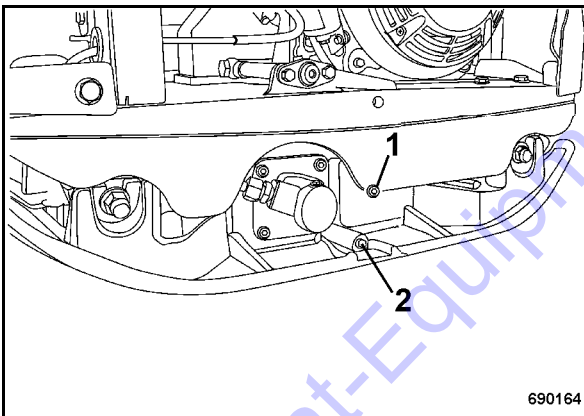

Fig. 61
- Clean the oil drain plug (2) (Fig. 61) and screw in with Omnifit FD 10 BOMAG PIN 00970016.
- Screw vent plug (1) tightly back in.